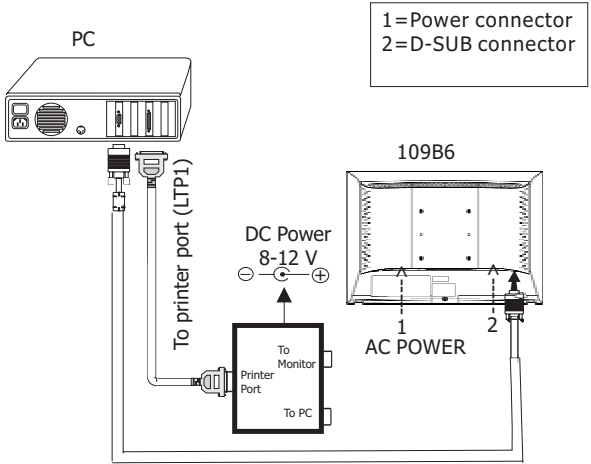

Fig. 3
- Disconnect the wire between metal shield of video panel and CRT neck as shown in Fig. 3.
Video Panel Fig. 3
- Step 2: Connecting printer cable and D-Sub cable of monitor as Fig. 3